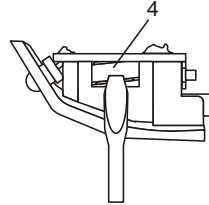

Fig. 11
4. While holding the LED module in one hand, use a small screwdriver to push the two button cells (4) out of the LED module (Fig. 11).